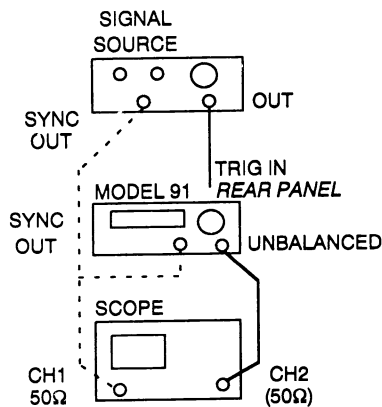

Figure 3-8. Trigger Measurement Setup
2. Connect the Model 91 and test equipment as shown in figure 3-8.
2. Connect the Model 91 and test equipment as shown in figure 3-8 except replace the signal source with a ± 5 V dc source.
2. Connect the Model 91 and test equipment as shown in figure 3-8. Connect the Model 91 SYNC OUT to the scope's trigger input.